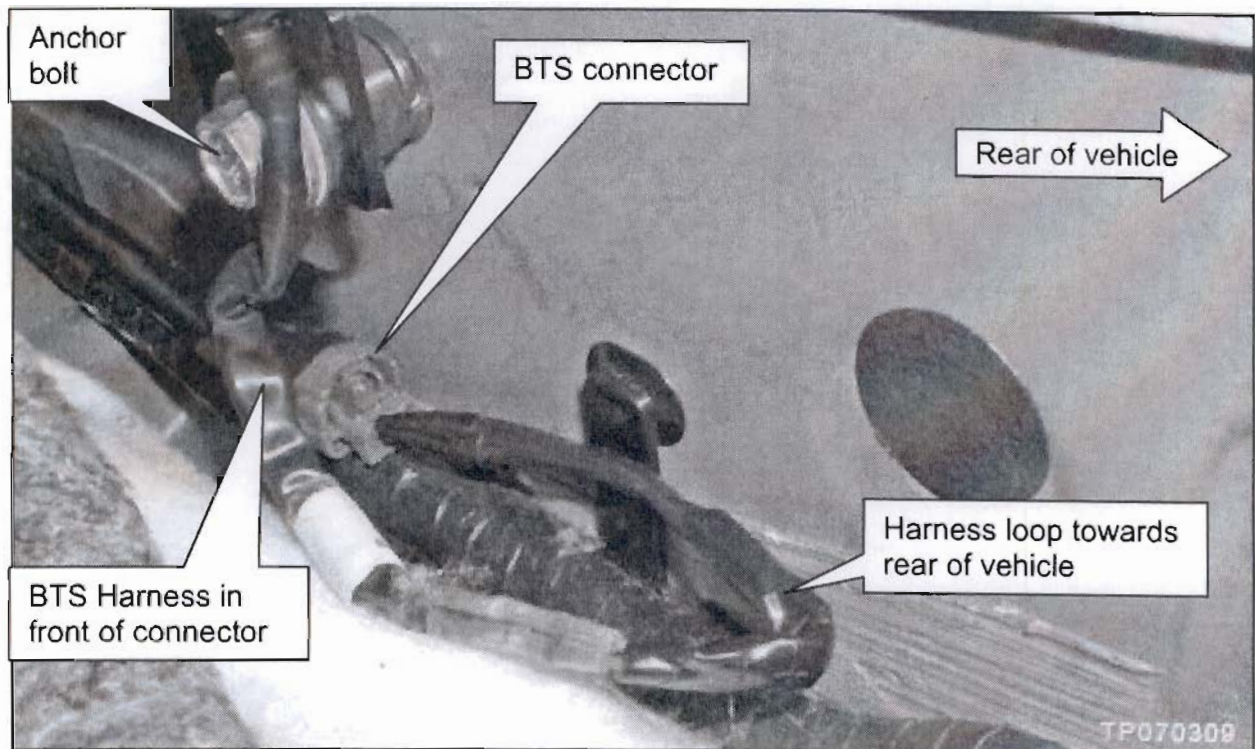

Figure 7
12. Connect the BTS Connector as shown in Figure 7.